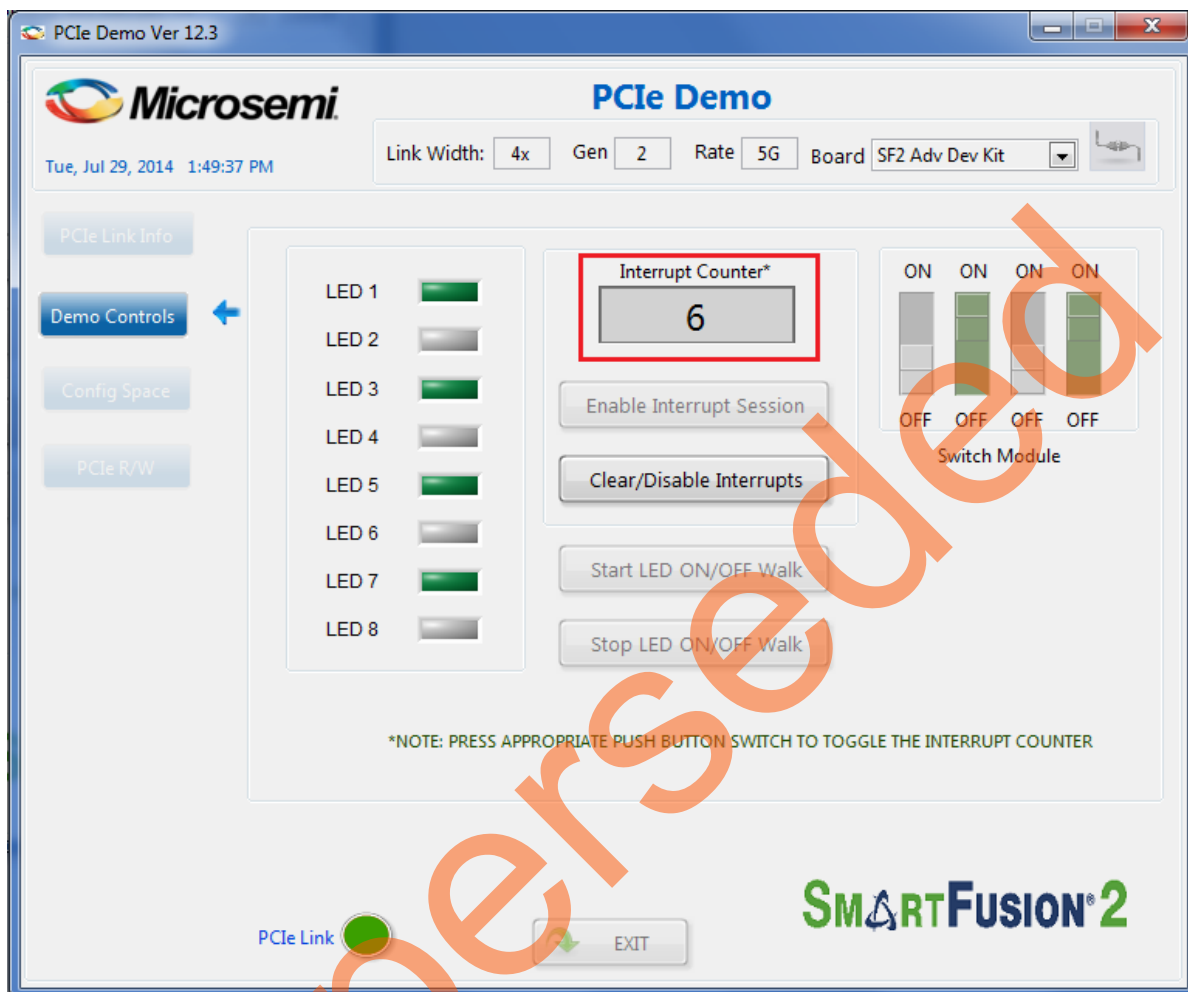

Figure 22 • Interrupt Counter
11. Press the push button **SW1** on the SmartFusion2 Advanced Development Kit Board and observe the interrupt count in the **Interrupt Counter** field, as shown in Figure 22.